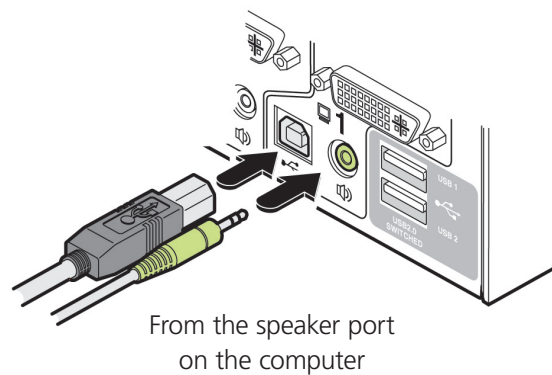

Figure 3-7. Connecting a computer unit to the Wizard DVI DL unit.
3. If required, use a stereo audio link cable (3.5-mm jacks at either end) to link the speaker port on the computer system to the audio port of the required channel on the rear of the unit. See Figure 3-7.